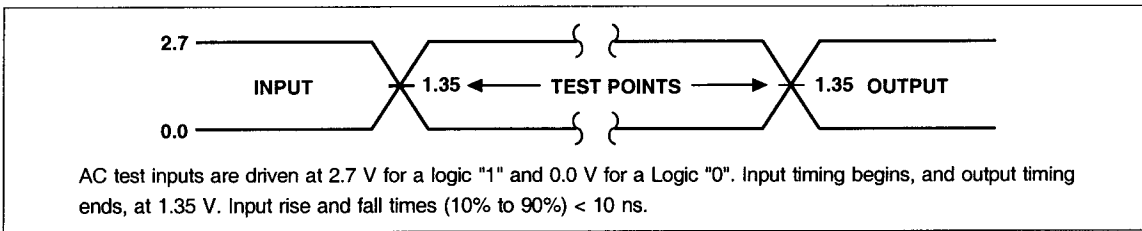
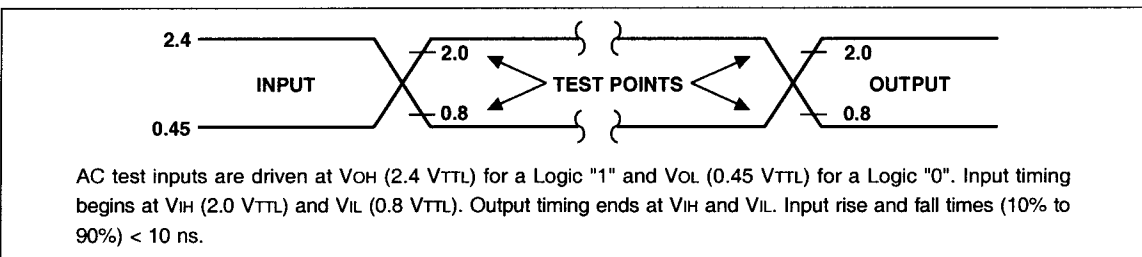

Fig. 9 Transient Input/Output Reference Waveform for VCC = 2.7 to 3.6 V
Fig. 11 Transient Input/Output Reference Waveform for VCC = 5.0±0.5 V (Standard Testing Configuration)
1. See AC Input/Output Reference Waveform (Fig. 9 through Fig. 11) for maximum allowable input slew rate.